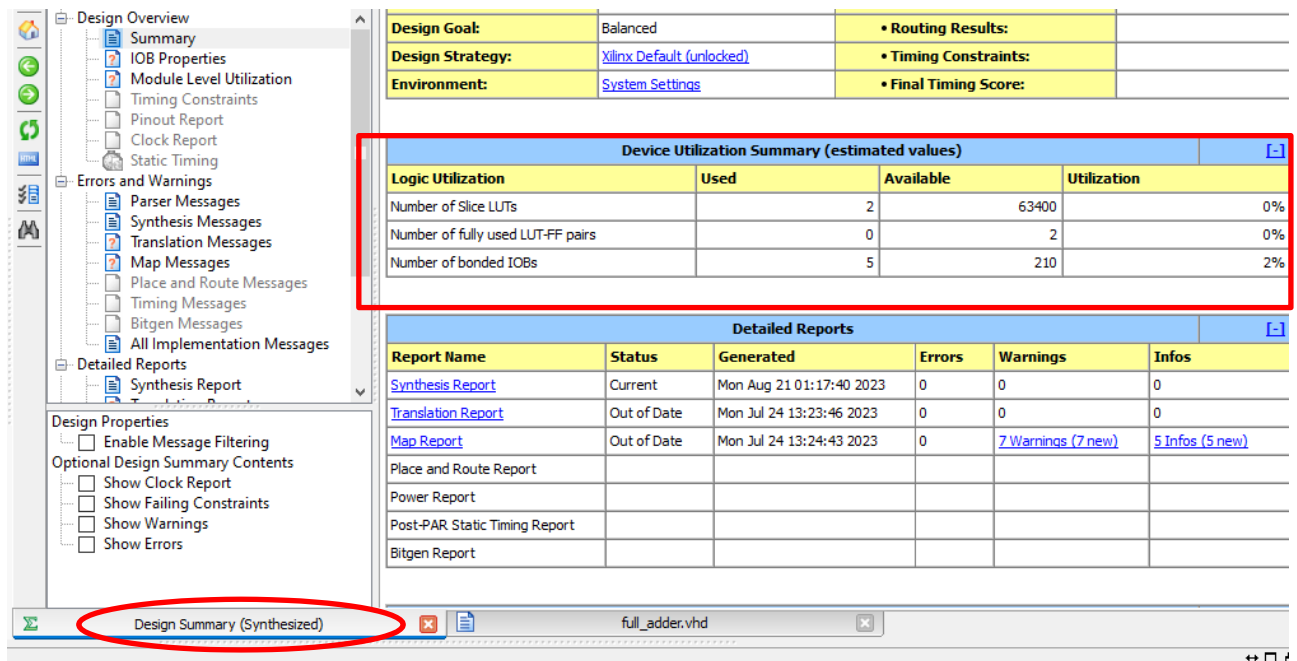

Figure 5: Device Utilization Summary
5. Additionally, you can gain a comprehensive understanding of your design's resource utilization by checking the "Device Utilization Summary." This report provides detailed information about the utilization of various FPGA resources such as lookup tables (LUTs), flip-flops, and more. It's a valuable resource for assessing the efficiency of your design and making any necessary optimizations. To access the Device Utilization Summary, click on Design summary (Synthesized) as shown in figure 5.